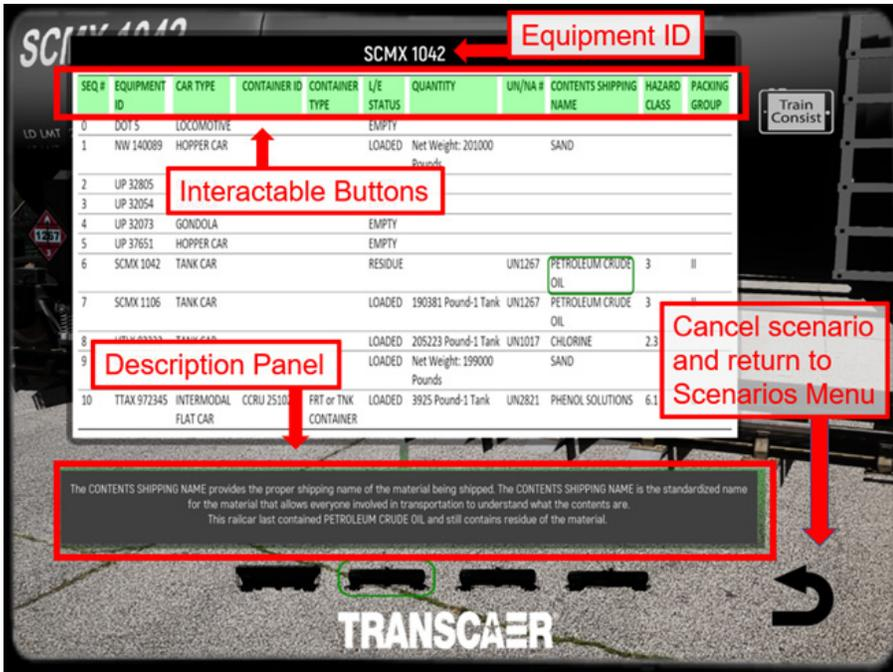

Figure 40: The Consist has 11 interactable buttons that update a Description Panel to help understand the information each column in a Consist provides.
- Provides a description of the information in each column of the Consist via a Description Panel (see Figure 40) that helps users understand the Consist information relevant to the currently selected railcar.
Tap on each column header button (Interactable Buttons in Figure 40) in the consist to update the description panel with information about that column.